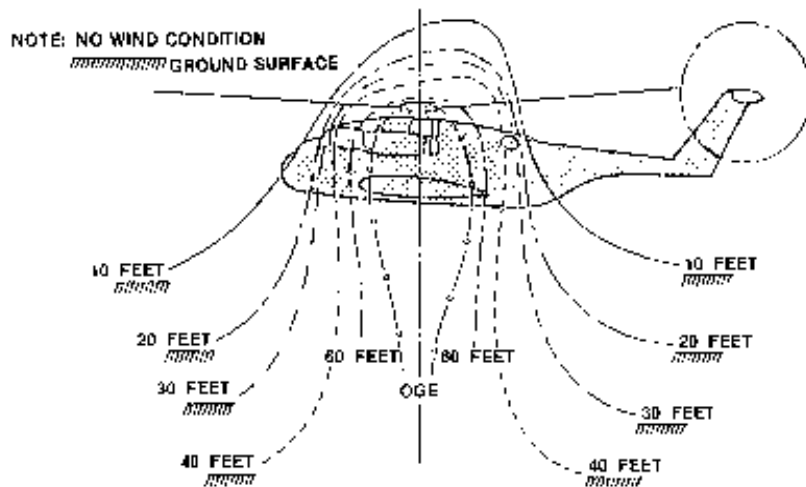

Figure 1-1. Rotor Downwash
(1) Rotor Downwash. Due to rotor downwash effects (Figure 1-1), HRST members must be cautious of several factors: